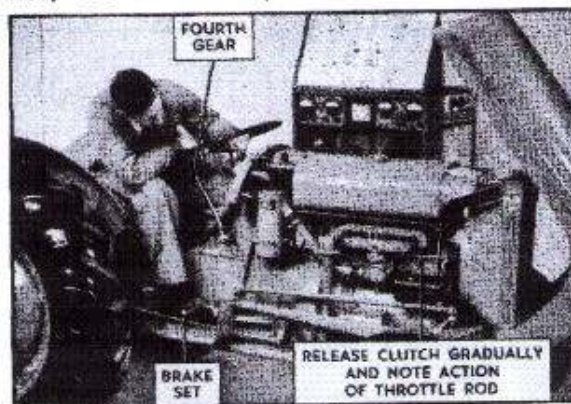

Fig. 107
5. Release clutch gradually, see Fig.107.